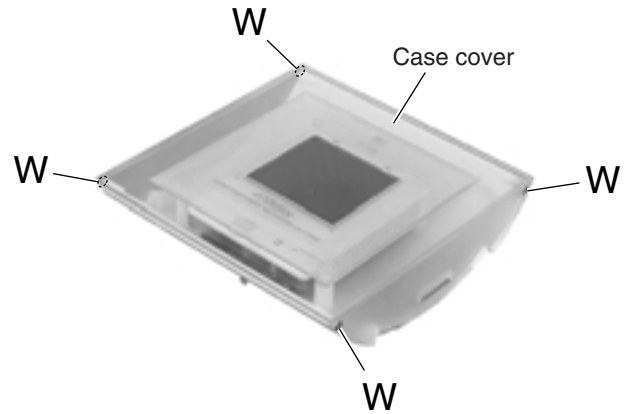

Fig.35
■ Removing the LCD board assembly (See Fig.35 to 39)